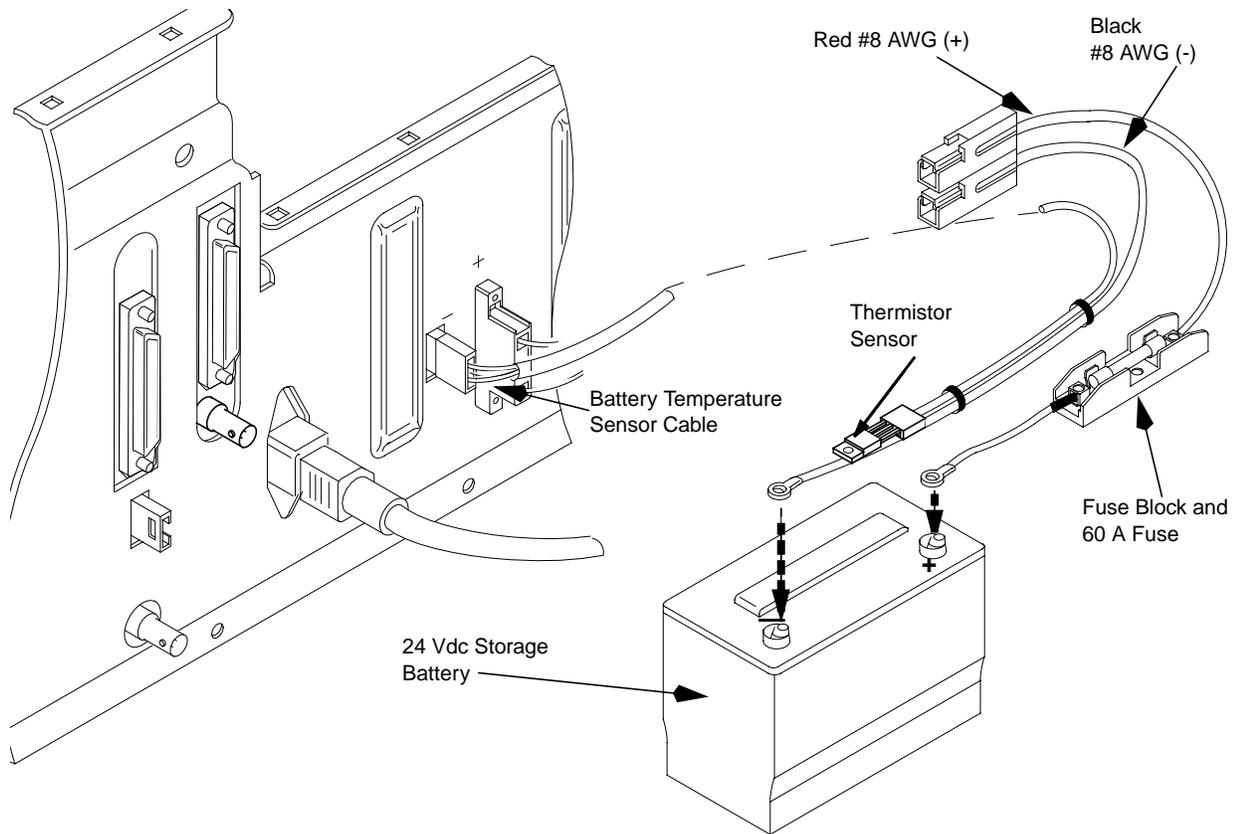

Figure 5-12: Battery Revert for a Standard Power Nucleus Paging Station
1. Connect the black-coated (negative) #8 AWG wire to the negative terminal on the battery (see Figure 5-12).